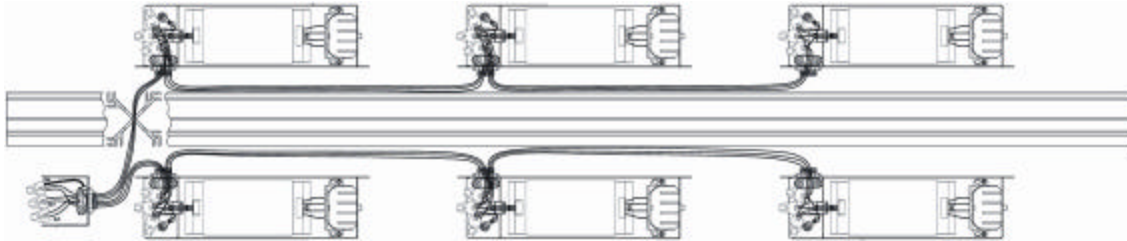

Figure 3c
20. After installation of the last Lamp Module on the side opposite of the Power Junction Module, route the power wires from the last Lamp Module installed through the feed through hole connecting the wire raceway from either side. **Do not install lamps at this stage. (see Figure 3c for example of completely wired system)**